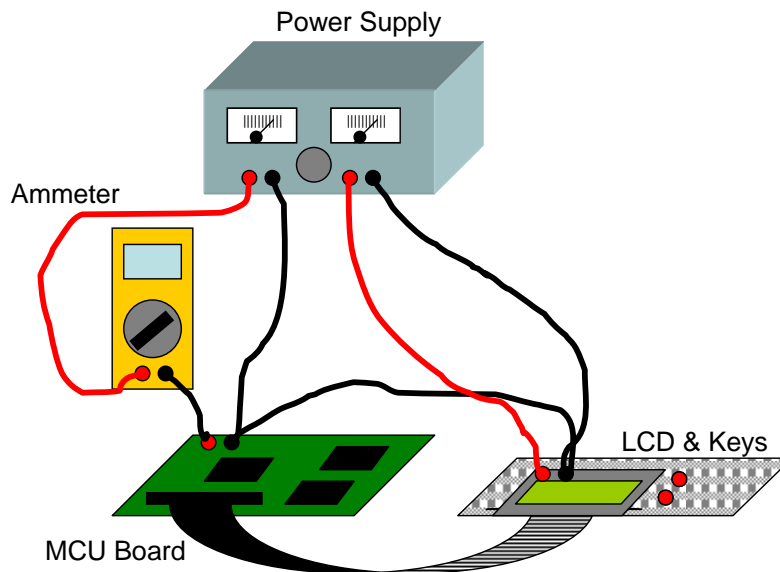

Figure 1: Connection diagram for part I.
3. Connect you development system with an external power supply so that an ammeter can be connected to measure the MCU current consumption. Connect the LCD to the power supply such that its current does not pass through the MCU ammeter. Make sure the meter is in current mode and leads are connected ammeter input. Figure 1 below shows a diagram illustrating the connection.
7. Download the code to the system and still with the programming adapter connected (no connection to external power supply yet!), debug your code to make sure it works. Once you have a working version, remove the programming adapter and re-connect the external power supply as indicated in Figure 1. Operate the system now in a similar fashion as in